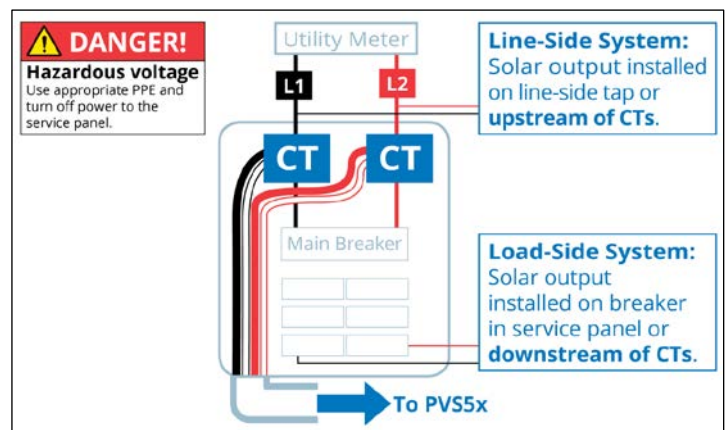

Fig. 31
- Place **L1 CT** (black and white wires) around incoming Line 1 service conductor (Fig. 31).
- Place **L2 CT** (red and white wires) around incoming Line 2 service conductor (Fig. 31).